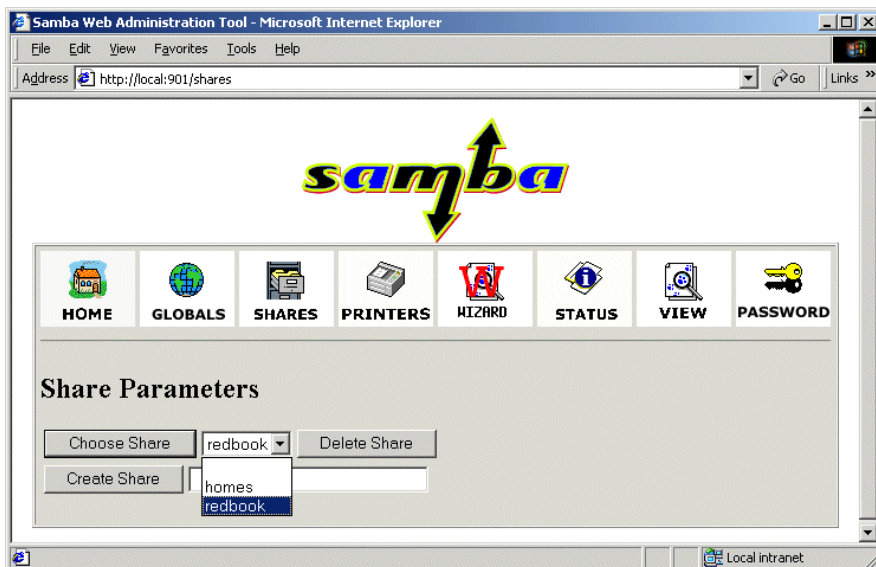

Figure 4-6 Selecting a defined share
1. Select the share from the field to the right of the Choose Share button, as in Figure 4-6.
1. Select the defined share, as shown in Figure 4-6 on page 67.